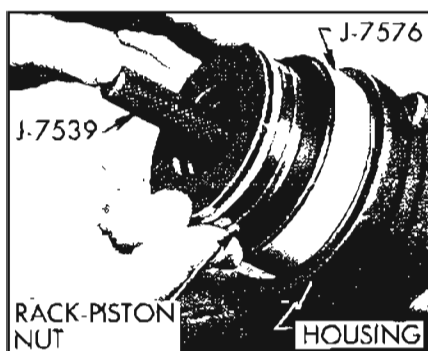

Figure 8-58—Installing Rack-Piston Nut
6. Install ring compressor sleeve Tool J-7576 in gear housing and hold it tightly against shoulder in the housing. See Figure 8-58. Insert the rack-piston nut into the housing until the ball retaining Tool J-7539 engages the worm. Turn the stub shaft drawing the rack-piston nut into the housing. When the piston ring is into the housing bore, the ball retaining tool and the ring compressor may be removed.